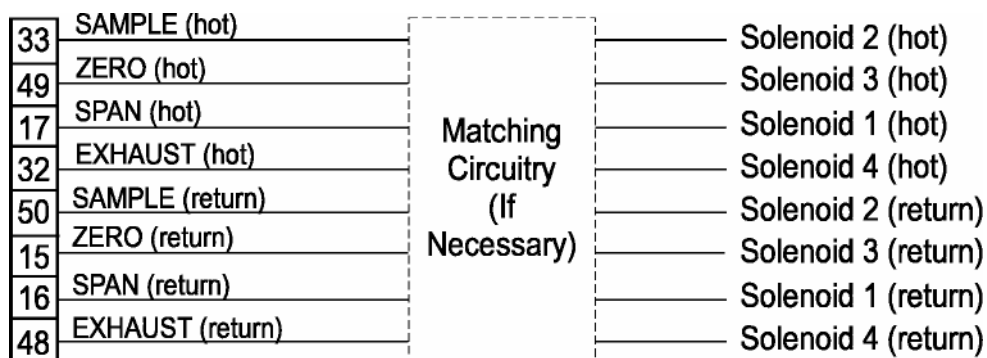

Figure 3-5: Remote Probe Connections
**Span:** Floating input. 5 to 24 V input across the + and – pins puts the analyzer into the Span mode. Either side may be grounded at the source of the signal. 0 to 1 volt across the terminals allows Span mode to terminate when done. A synchronous signal must open and close external span valve appropriately. See Figure 3-5
**Remote Valve Connections:** The 3000TA-EU is a single-chassis instrument, which has no Remote Valve Unit. Instead, the Remote Valve connections are used as a method for directly controlling external sample/zero/span gas valves. See Figure 3-5.